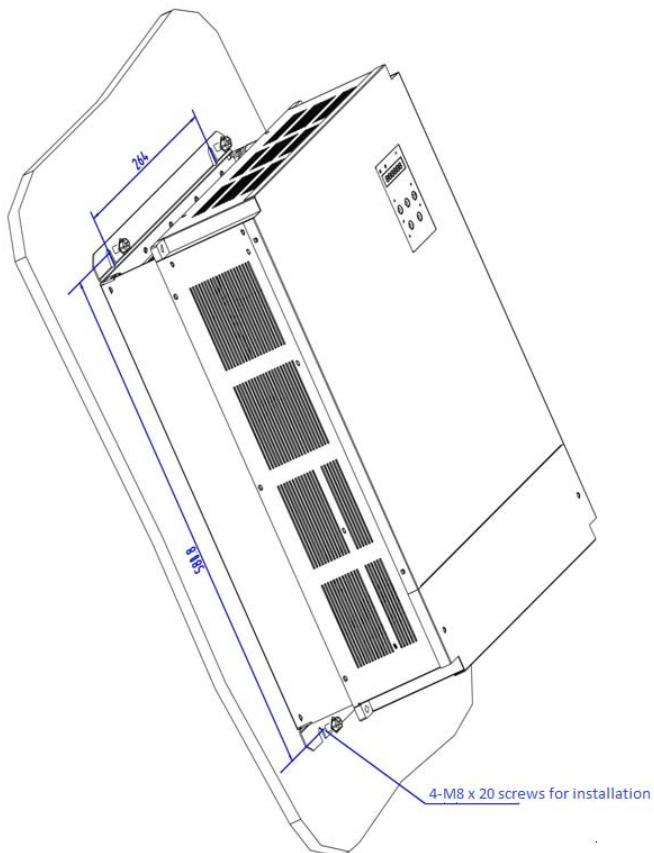

Figure 5.4.12 Wall mounting installation mode of HSV-180US-200, 300, 450
- Wall mounting (direct mounting with installation auxiliary device), as shown in Figure 5.4.12.